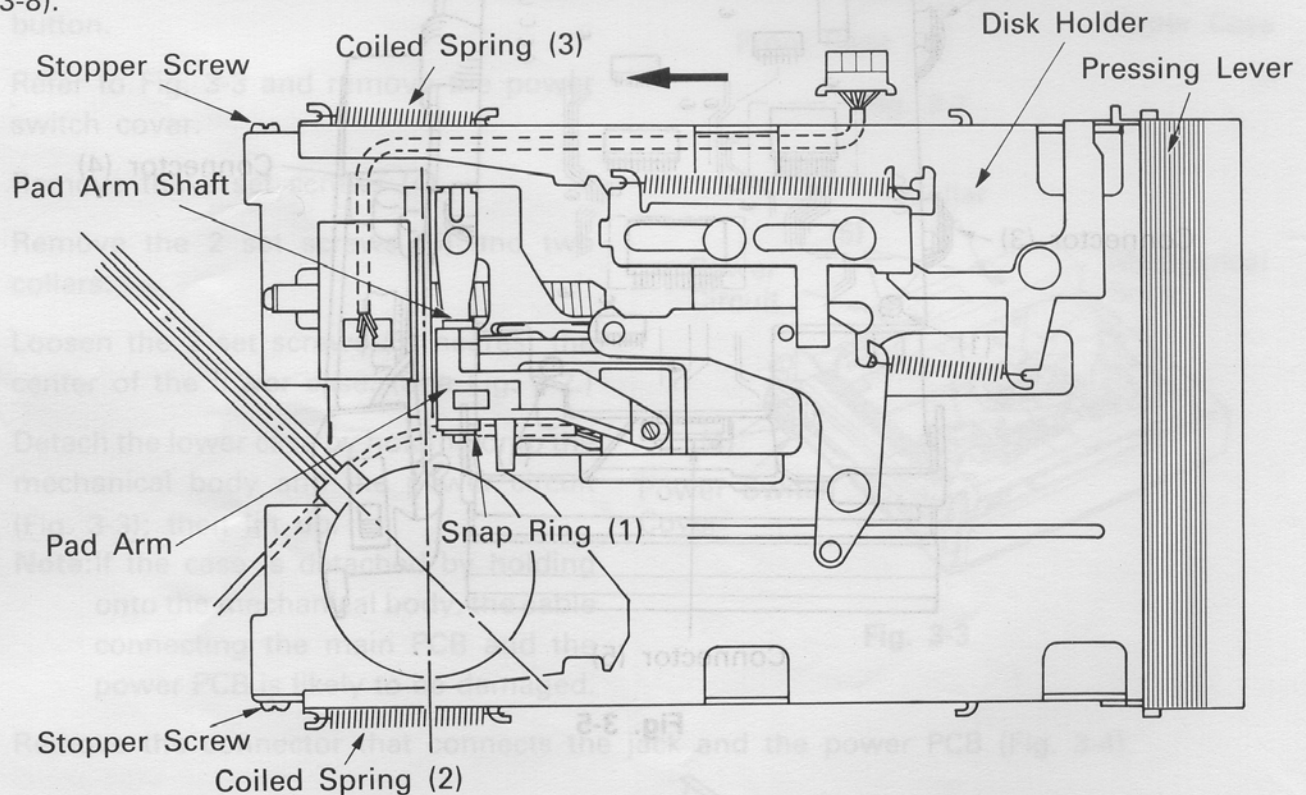
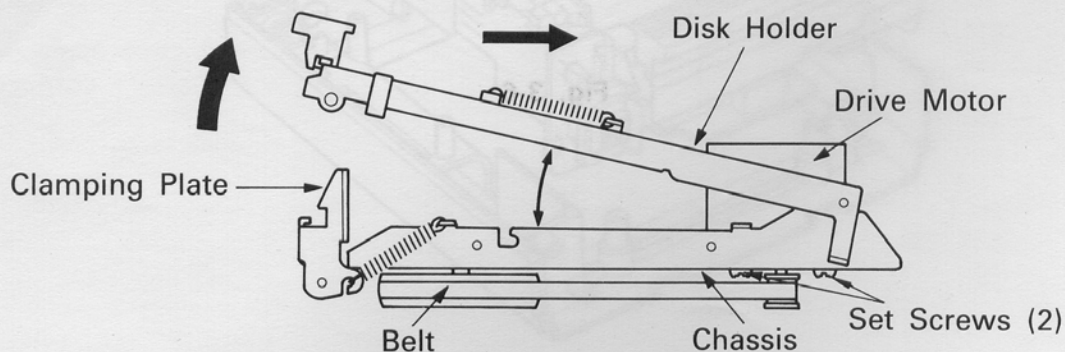

Fig. 3-7
Fig. 3-8
1. Remove the snap ring (1) and pull out the pad arm shaft (Fig. 3-7).
3. Remove the 2 coiled springs (2) and (3).
5. Release the lock of the clamping plate and remove the disk holder by pulling it backward while holding it up at about a 30-degree angle (between the chassis and the disk holder.) (Fig. 3-8).